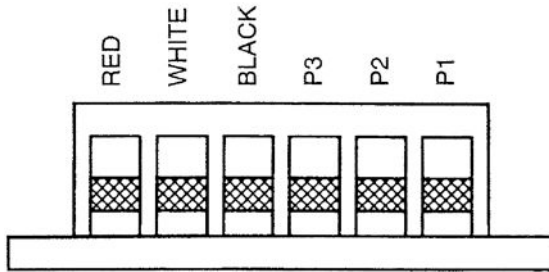
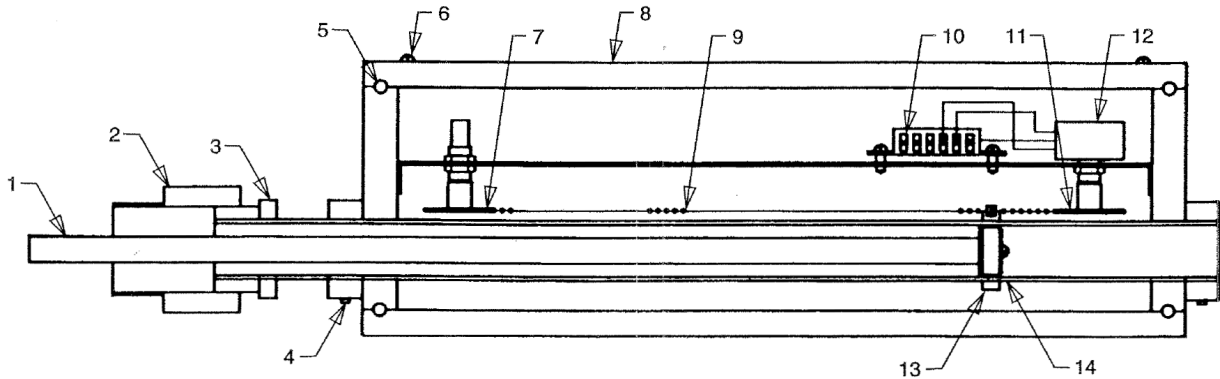

fig.1: Dunham-Bush Slide Valve Terminal Location
fig.3: Dunham-Bush Magnetic Slide Valve Indicator
- a. Precautions must be taken when handling this assembly. The ring magnet and round magnet used in this assembly are very fragile and may shatter when not handled carefully. It is also very important to keep all metal filings away from the magnets. This assembly has been pre-calibrated at the factory and should not be disassembled. Read the instructions completely before proceeding. Refer to Figure 3, page 14 for details.
- c. Remove cover (8) from magnetic slide valve indicator assembly by removing two cover screws (6).
- d. Remove rod (1) for tube (3) by holding the ring magnet (13) and pulling on the rod (1).
- f. Remove adapter (2) from tube (3) and discard.
- g. Cut off one inch on the threaded end of rod (1).
- h. Thread rod (1) into slide valve piston and secure tightly.
- i. If the compressor end plate had machine threads, then screw in adapter (2) into the compressor end plate.
- j. Slide the magnetic slide valve indicator assembly over rod (1) and thread it into the compressor end plate (pipe thread) or adapter (3) (machine threads). Secure tightly.
- k. Loosen two setscrews (4) and rotate the assembly around tube (3) so that circuit board (10) is facing up. In some situations it may be difficult to get the cover (8) over the assembly due to piping around the compressor slide valve end, If this is the case, rotate the assembly until the cover (8) can be slipped on. Tighten two set screws (4) to secure the assembly.
- m. Feed wires through cover (8).
- n. Feed wires through cord grip into the assembly and attach the wires to circuit board (10). See the Terminal Locations (Figure 1, page 13) for proper connections.